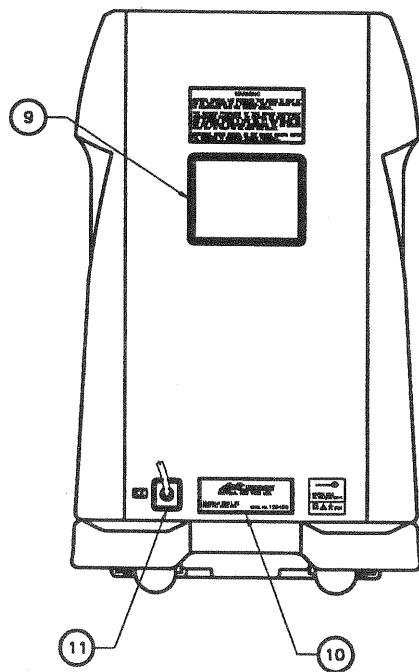

Fig. I.2
I. 2. Bagpanel (Fig. I. 2).....	2-DA
1. 2. Bagpanel (Fig. I. 2)